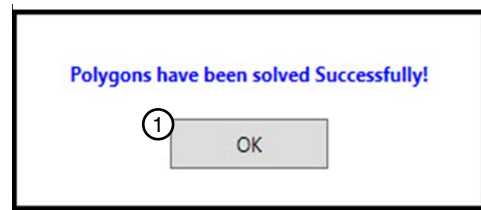

Figure 32-3 1. OK
Once you see the pop-up in Figure 32-3 optimization has been completed.
9. Click OK on Figure 32-3.